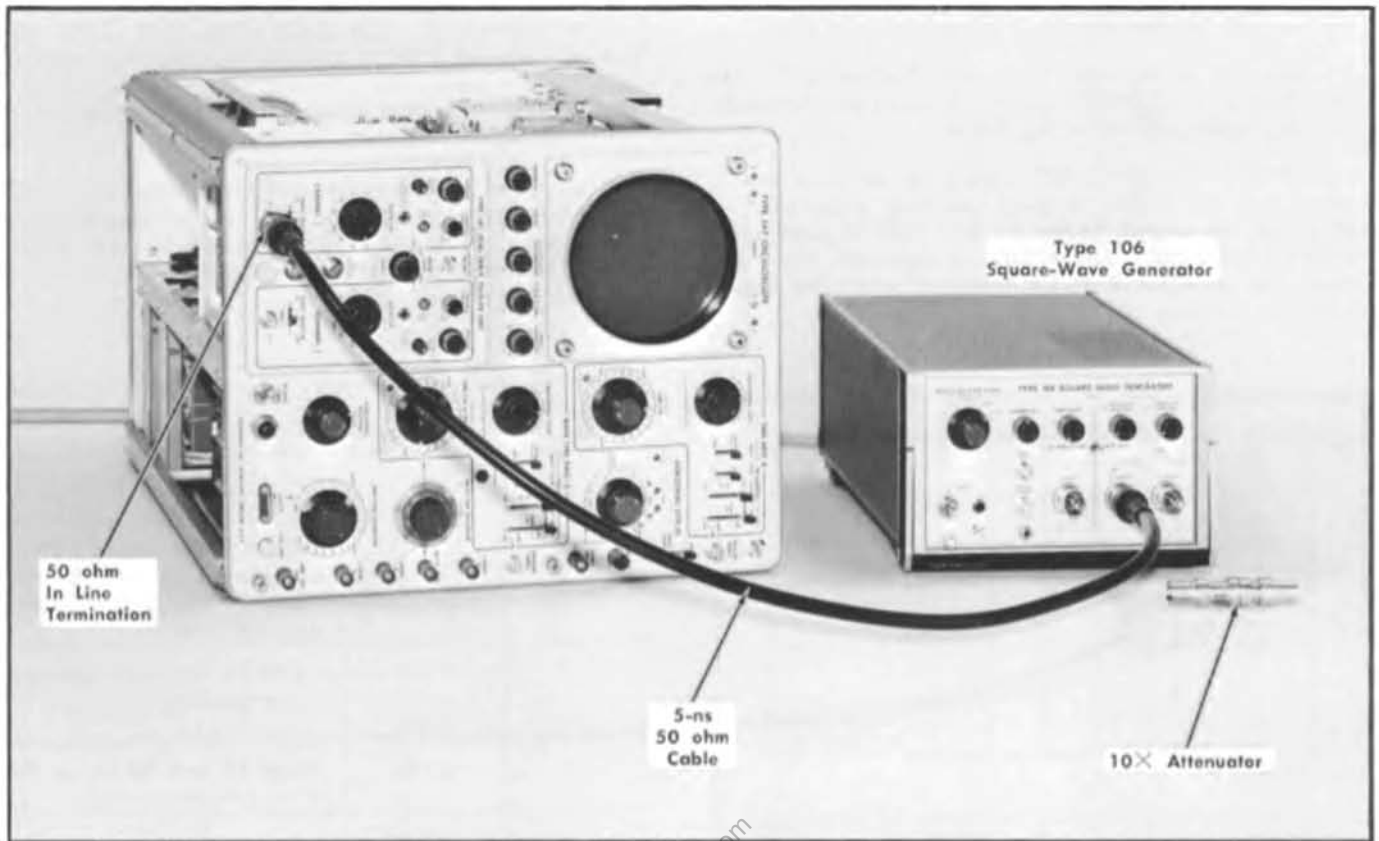

Fig. 7-29. Test equipment setup for steps 22 and 23.
a. Test equipment, with connections made at completion of step 22c, is shown in Fig. 7-29.
c. Apply the 100-kHz fast-rise signal from the +Output connector on the Type 106 through a 5-ns cable and 50-ohm in-line termination to the Type 1A1 Channel 1 INPUT connector (see Fig. 7-29).
a. Test equipment setup is similar to that shown in Fig. 7-29.